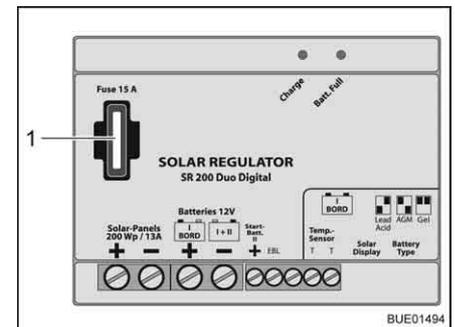

Fig. 174 Fuse of the 140/200 W solar charge regulator
- Replace flat fuse 15 A/blue (Fig. 174,1).